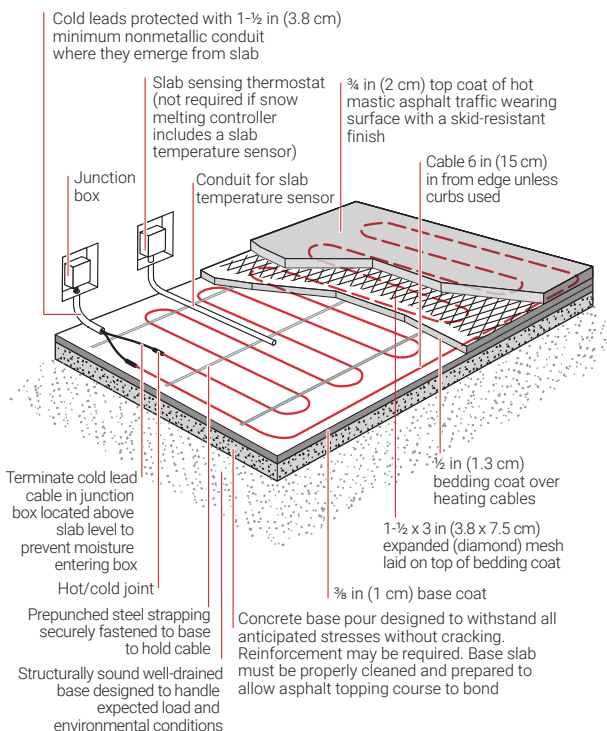

Figure 20: Mastic asphalt with concrete base
3. Install prepunched strapping at 3 to 4 ft (0.9 to 1.2 m) intervals, with additional runs where required, to hold cable loops securely (see Figure 20). Anchor the strapping to the asphalt base using an appropriate fastening method.
It is recommended that the tabs on the prepunched strapping be bent backwards over the cable as shown in Figure 12 as the sharp edges can cut into the jacket when the hot mastic asphalt is placed. Typical cable spacing ranges between 3 in (7.5 cm) minimum to 6 in (15 cm) maximum on centers. For sloping ramps, such as a ramp to an underground parking garage, serpentine the cables across the width of the ramp to improve snow melting effectiveness. Stay at least 6 in (15 cm) from edges and outer walls (see Figure 20 for details).
5. Install hot/cold joints so that they are at least 6 in (15 cm) in from the edge of the paved area, ensuring that they will be completely embedded in the asphalt (see Section 2.6). Protect the cold leads with nonmetallic conduit where they emerge from the asphalt (see Figure 20 and Section 4 for details).